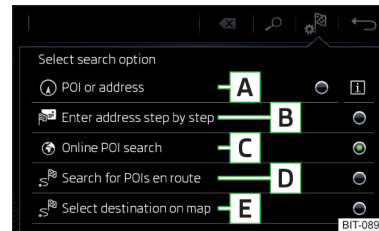

Fig. 209
Functional surfaces » Fig. 209
- › Then tap the function surface of one of the menu items for the destination search **A**, **C** or **D** » Fig. 209 on page 179.
- Then tap the function surface  →  » Fig. 209 on page 179.